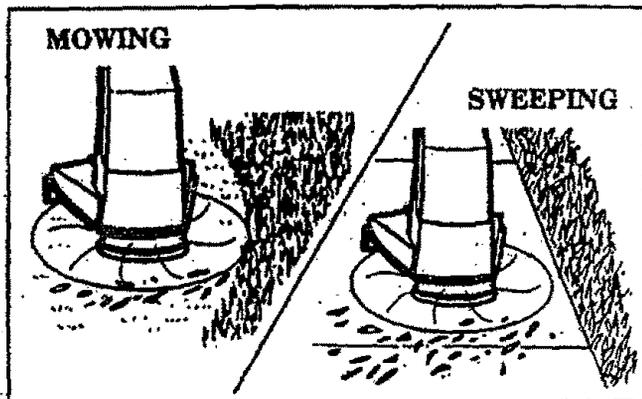

Figure 10
3. **MOWING**- Figure 10. Your trimmer is ideal for mowing in places conventional lawn mowers cannot reach. In the mowing position, keep the line parallel to the ground. Avoid pressing the head into the ground as this can scalp the ground and damage the unit.
4. **SWEEPING** - Figure 10. The fanning action of the rotating line can be used for a quick and easy clean up. Keep the line parallel to and above the surfaces being swept and move the unit from side to side.